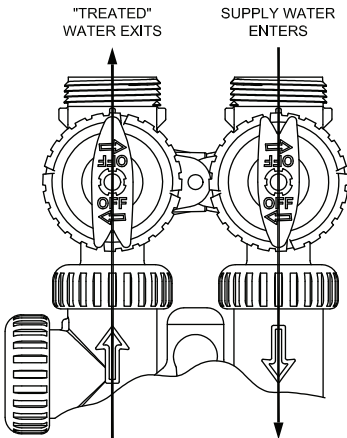

Figure 2
- 2) Bypass Position: The inlet and outlet handles point to the center of the bypass, the Control Valve is isolated from the water pressure contained in the plumbing system. Untreated water is supplied to the plumbing system. (See 'Bypass Operation' Fig 2)
(See 'Bypass Operation' pg 14 Fig 2)